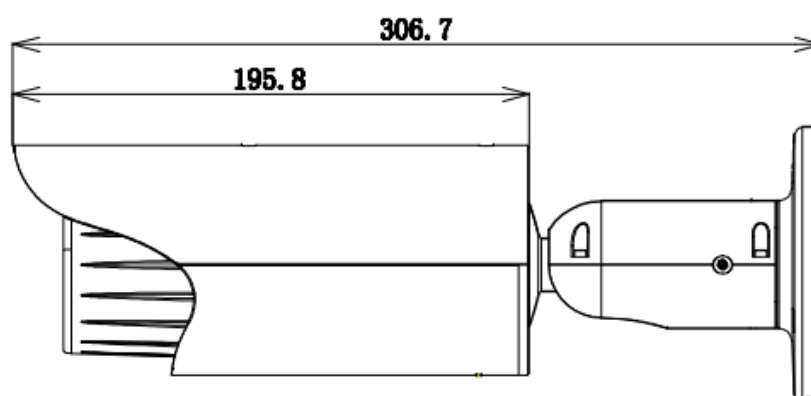
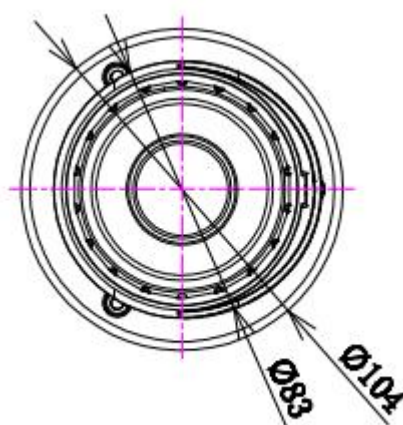

Figure 2-2 Dimension illustration 1
Figure 2-3 Dimension illustration 2
Please refer to the following figure for dimension information. The unit is mm. See Figure 2-2 and Figure 2-3.
- Step 2. Insert Micro-SD card into SD card slot according to Figure 2-2.
Rotate lens counterclockwise, and take it down. You can see its front and rear adjusting rod. Front rod adjusts focus while rear rod adjusts zoom. After adjusting rod, rotate lens cover clockwise to fasten it. See Figure 2-3.